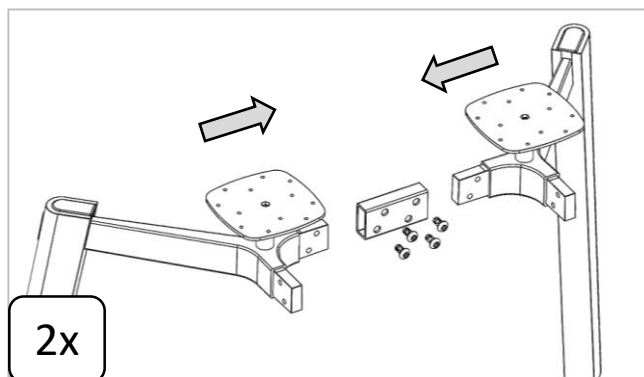

Figure 5.6
9. Attach the end assemblies from Figure 5.6 to the Tubes (width) using the 3/8-16 x 0.75 Button Head Socket Cap Screws.